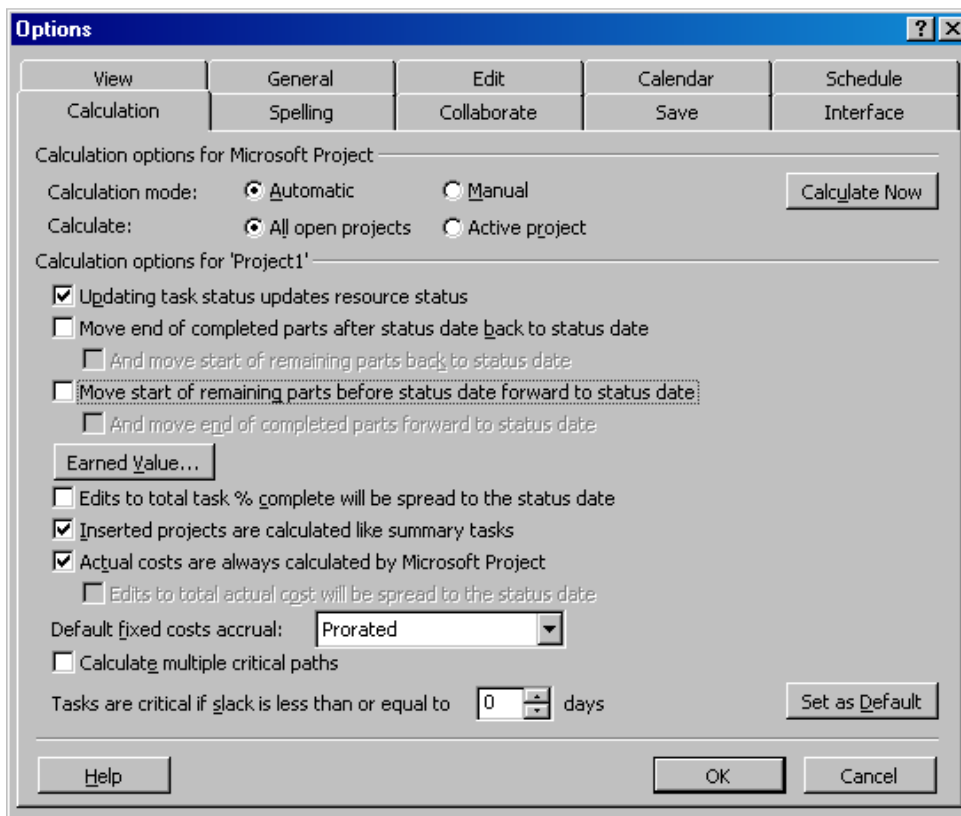

Figure 5 – Calculation Options Tab
2. Under the Tools / Options / Calculation Tab. Figure 5 shows this tab.